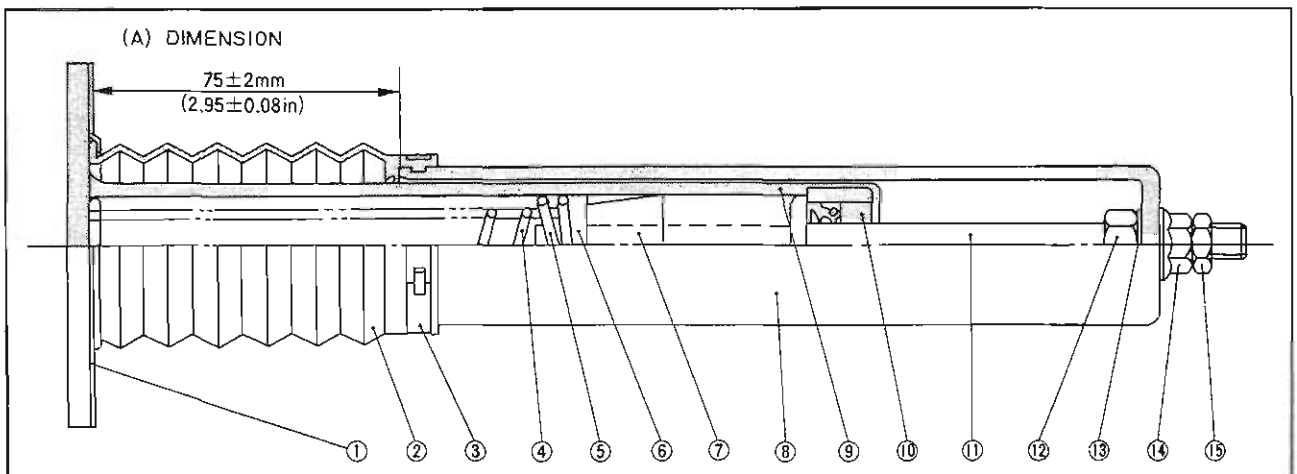

Fig. 14-1 Shock absorber
To check the shock absorber, measure the dimension (A) shown in Fig. 14-1.